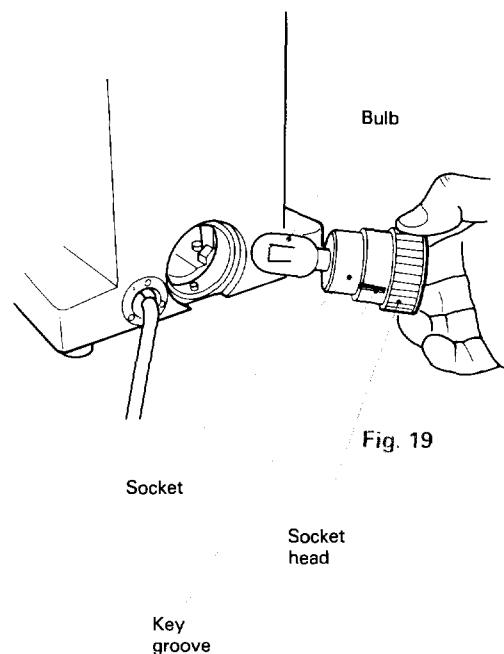

Fig. 19
- Hold the socket so that its key groove will face downward and push the socket fully into the instrument body (Fig 19). If the illumination on the screen is not uniform, adjust position of the bulb.